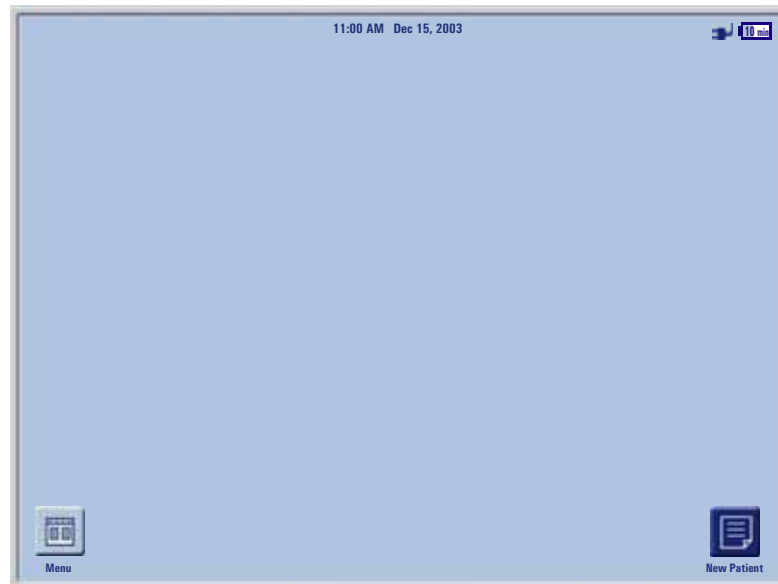

Figure 5-9 PRU Ready Screen
8. Press **Close** on the Menu screen to return to the PRU Ready screen (refer to Figure 5-9 on page 5-11).